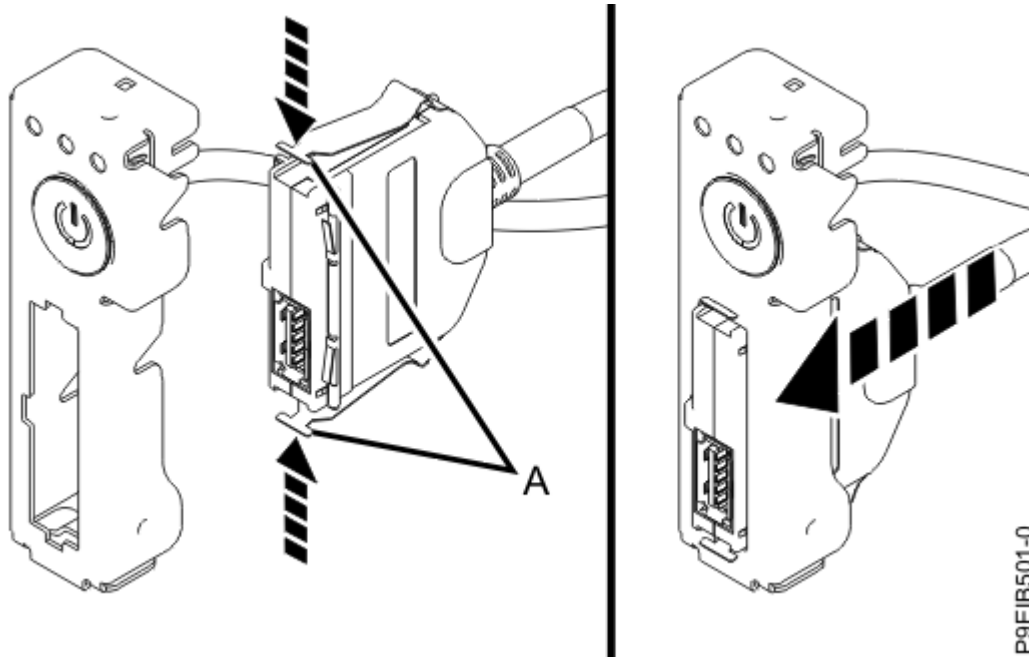

Figure 173. Attaching the USB cable and connector to the power switch
3. While you press the latches **(A)** in, connect the USB cable and connector to the power switch as shown in Figure 173 on page 189.